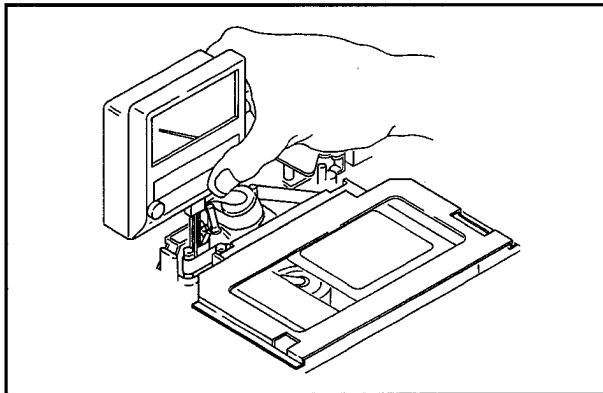

Figure 3-10-2
2. Insert the tension meter between S2 post and S3 post as shown in figure 3-10-2.